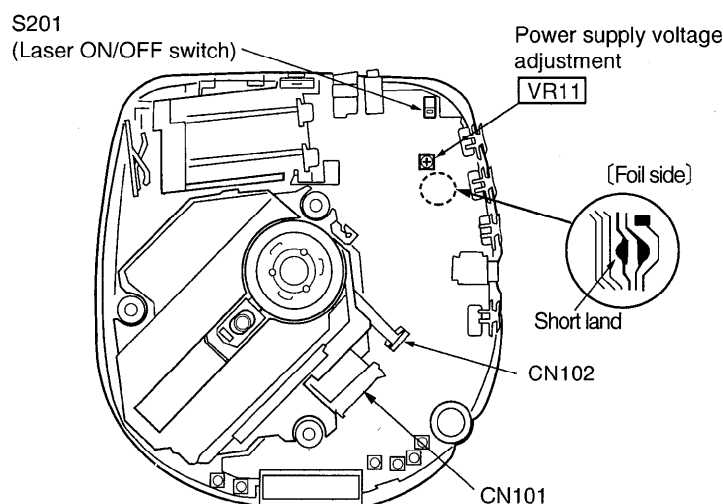

Fig. 1
Short-circuit the lands of the laser ON/OFF switch (S201) by soldering them. It turns “ON” position. (Refer to below **Fig. 1** or printed circuit board and wiring connection diagram for short land location on page 22.)
2. Take care to connect CN101 and CN102, as shown in **Fig. 1**.
4. Adjust **VR11** on the P.C.B. at **3.10 ~ 3.14 V**, as shown in **Fig. 1**.
Fig. 1 is a block diagram showing the compression-shockproofing mechanism, the difference of which from the conventional mechanism is as follows: Input information read out at double speed undergoes data compression (16 bits → 4 bits) by the encoder in the ADPCM (Adaptive Difference PCM) and stored in the external memory; the stored memory information undergoes data elongation (4 bits → 16 bits) by the decoder in the ADPCM and supplied at normal speed to the D/A converter.